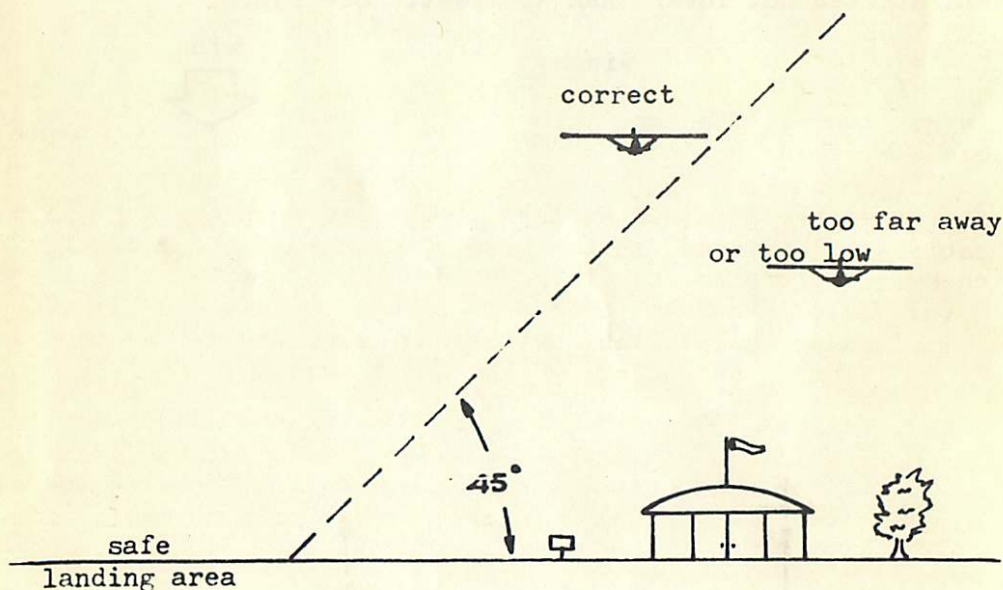

Fig 9
- 8 (a) Throughout the flight, the glider should always be within a 45 degree angle from that part of the airfield suitable for landing. See Fig. 9.